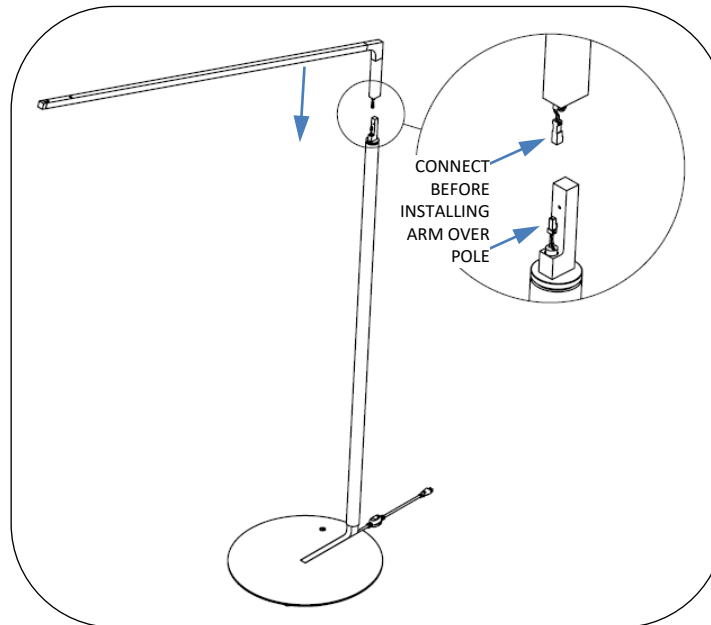

Fig. 1 – install lighted arm
1. Make wiring connection from harness in lighted arm to the connector at the top of the round pole, see Fig. 1.